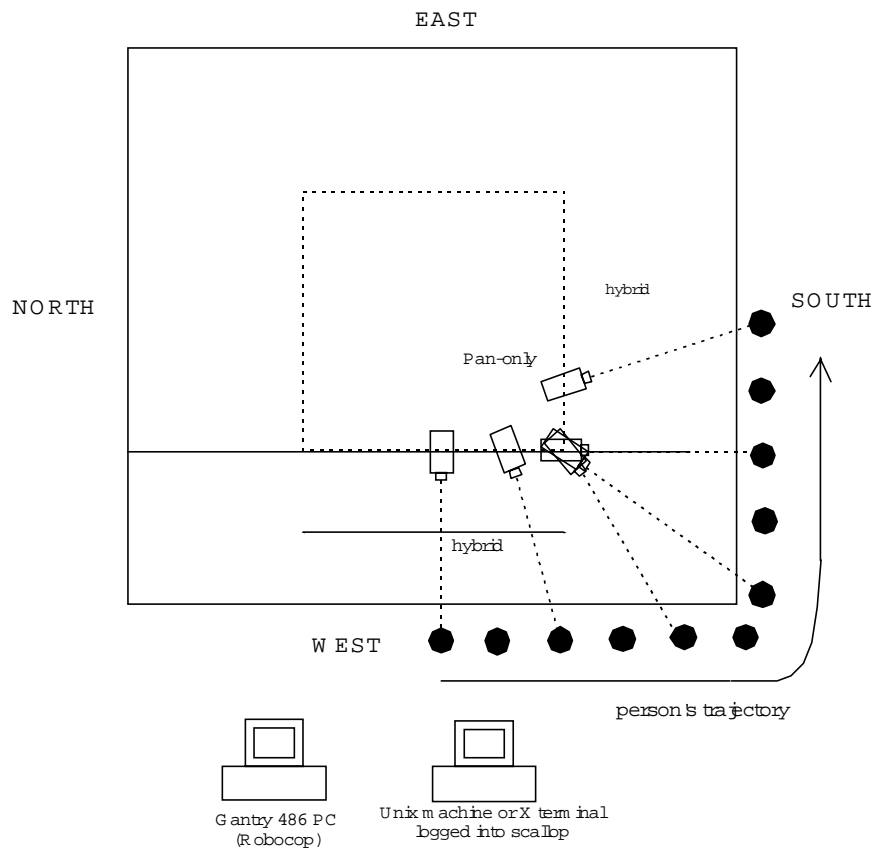

Figure 1: Top view of gantry workspace. Room's south side points to Uris Hall
The 5-DOF ceiling-mounted gantry robot can track a person walking around the gantry's workspace, as shown in Figure 1. The demo is a seven-step procedure:
2. Orient the camera with the PTU to point West (see Figure 1 for Cardinal points).
The gantry's primary home position is in the North-West corner (see Figure 1). First, bring the gantry close to this corner with the teach pendant, then **FASTTERM** type:
The gantry should begin slowly homing. For people tracking, a secondary home position was defined and lies appropriately halfway between the North and South sides of the gantry as shown in Figure 1. Under **FASTTERM**, one can load and execute the secondary home program:
Pan position, **pp-1750** and tilt position, **tp0**, orients the camera's optical axis West as shown in Figure 1. **KERMIT** must be exited (using the key combination **<CTRL>-\